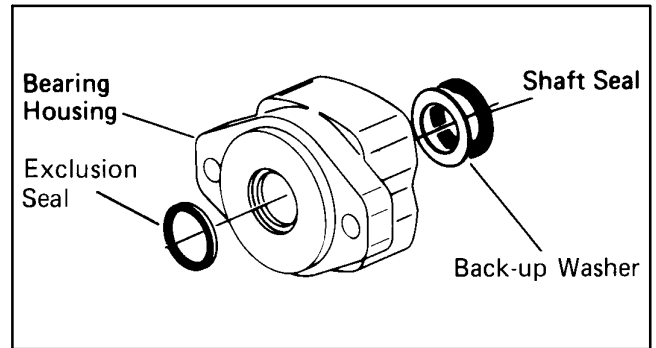

Figure 80
20. Use a small screwdriver to remove shaft seal, back-up washer and exclusion seal from bearing housing, see Fig. 80. Do not damage bore of housing.